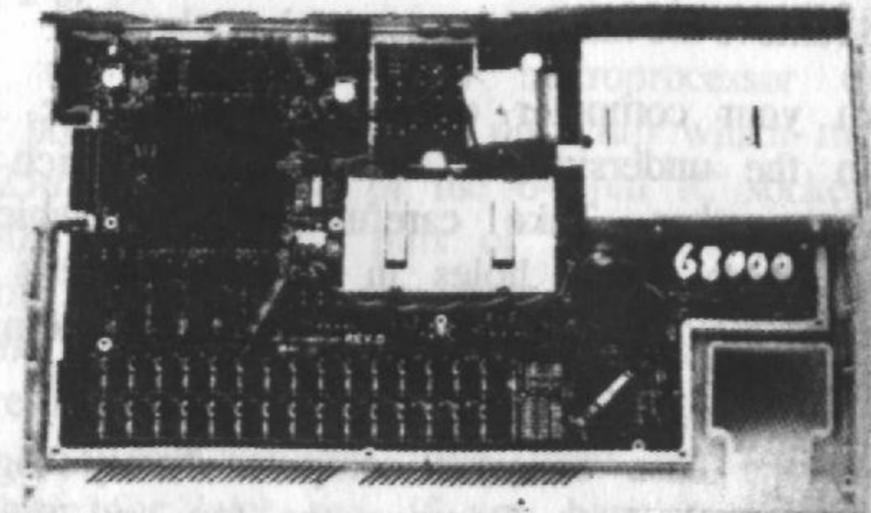

Figure 2: System board of a 1040 ST with the 68000 microprocessor mounted under the floppy disk drive.
6. You should now see the system board as illustrated (Figure 2 or 3).
7. Locate the Motorola 68000 microprocessor on the system board. It is a big 64 pin chip which measures 80 x 25mm. Place one of the 64 pin IC sockets onto the 68000 so that the pins of the IC correspond to those on the 68000. If you have an older model 1040 with the 68000 located under the disk drive (Figure 2), carefully break off the two pieces of black plastic which support the disk drive from the motherboard. Save these for later use. If you have a newer model 1040 with the 68000 in the centre of the motherboard then cut off the grey plastic keyboard support located just in front of the 68000 using metal shears.
in figure 2 or 3. Note all the parts of the system board that may be touched by the PC-SPEED board when you fit it later. Now put your PC-SPEED board aside and cover those parts with insulating tape.